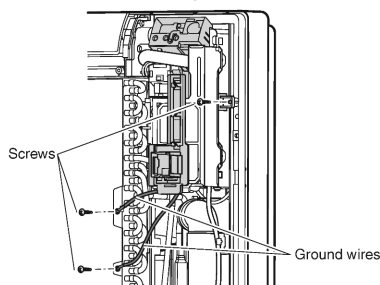

Fig. 6
- 5) After removing the ground wires (2 screws), remove the electrical wiring box (1 screw). (See Fig. 6 )